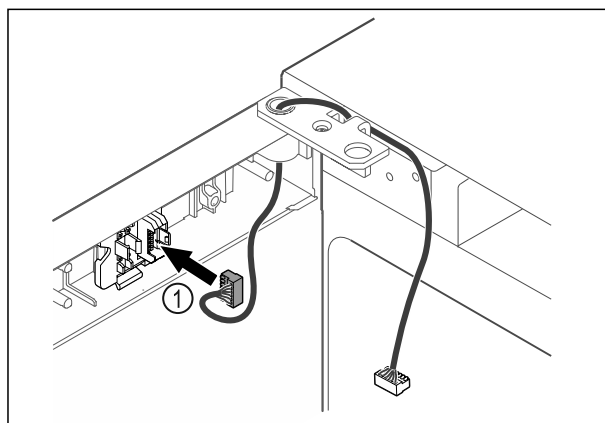

Fig. 66
- Put the plug Fig. 66 (1) in the plug holder.